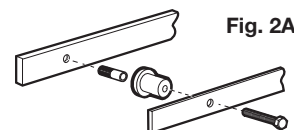

Figure 2A
Drill pilot hole. Insert lag bolt (X) through the first track hole, then place the track spacer (S) through the bolt on back of the track. Install the lag bolt with 1/2" socket ratchet. Do not tighten fully. Swing the track up and use the level to ensure the track is straight. Mark the remaining holes in the track. Drill remaining pilot holes. Slide the stopper (T) onto the track for the end of the track where you installed the first bolt so it is between the first and second holes on that end of the track. Install the next bolt and spacer at this end of the track. Install the remaining bolts and spacers. Go back and fully tighten the first bolt. Slide the remaining stopper onto the other end of the track. Do not set either stopper at this point. **Refer to Figures 2A, 2B & 2C.**